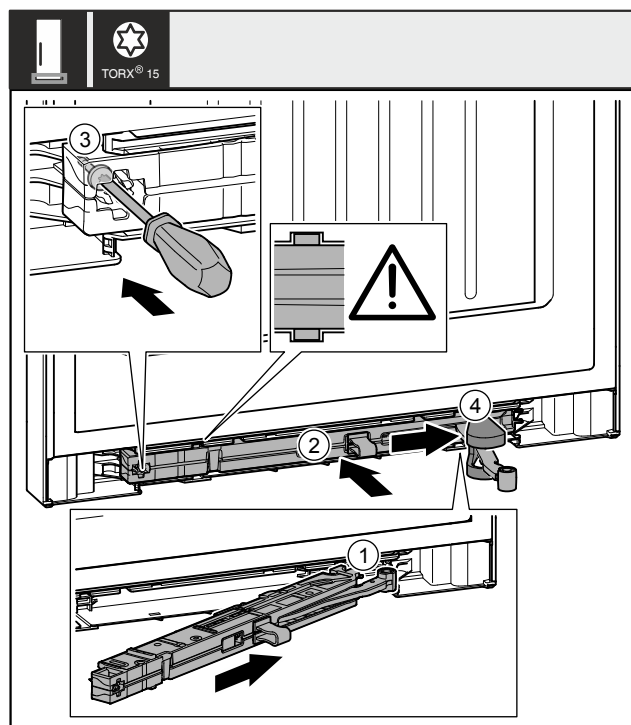

Fig. 46
- Slide the closing damper unit Fig. 46 (1) on the swap bearing block side up to the stop diagonally into the recess.
- Push the closing damper unit Fig. 46 (2) completely into the recess.
- Tighten the screw Fig. 46 (3) with a screwdriver.
- Push the cover Fig. 46 (4) over the joint.